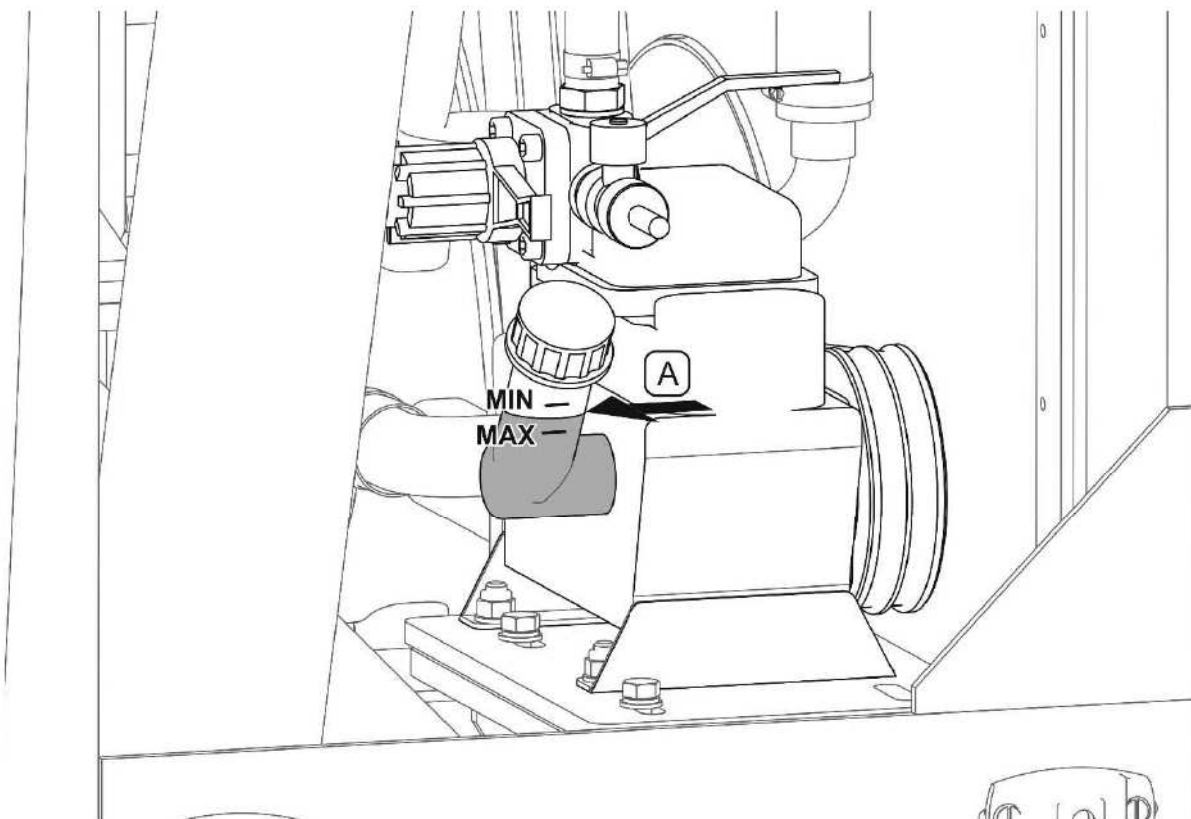

FIG. 5.23 Oil tank of water pump
Level of oil in the water pump lubrication system should be checked periodically. When the machine is switched off, oil level (A) in the water pump lubrication system should be between „min” and „max” marks visible on the inlet tube (FIG. 5.23).